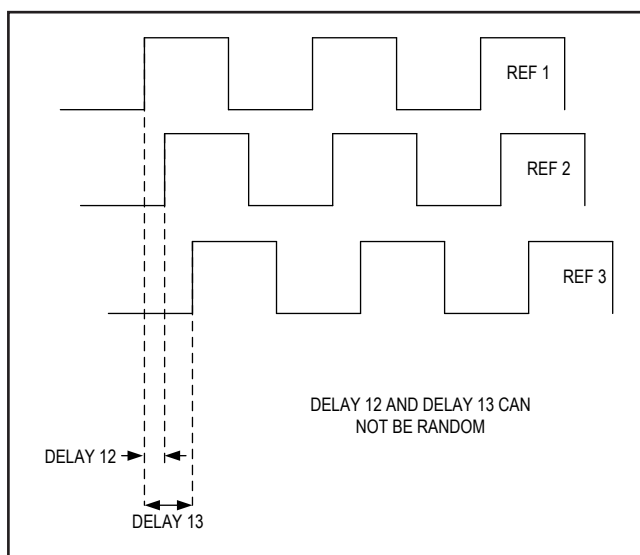

Figure 6. Reference Signal Relative Delay
- The relative delay of reference signal at each MAX2871's reference pin can **NOT** be random. Refer Figure 6.